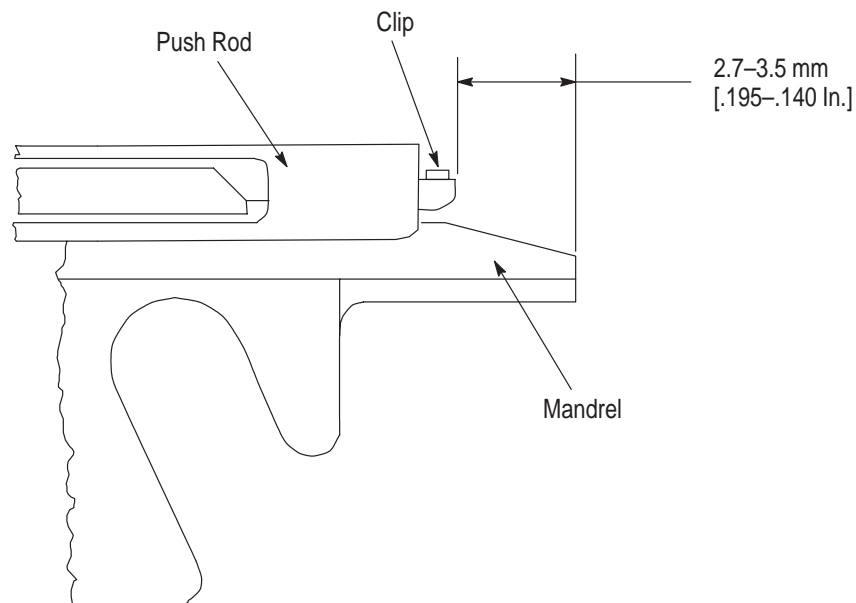

Figure 17
2. With the push rod fully extended, measure the distance from the front of the clip to the front of the mandrel. See Figure 17. If the dimension is not within the range specified in Figure 17, adjustment is required.
3. Move the push rod and drive block forward or backward as required to obtain the required dimension shown in Figure 17.